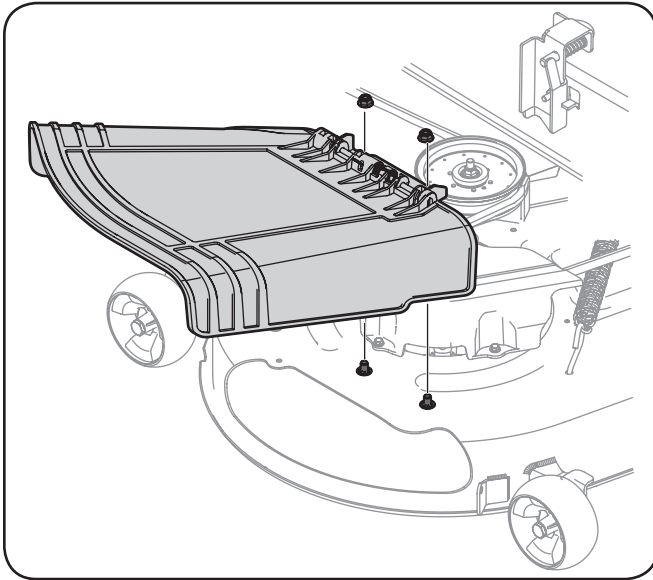

Figure 3-7
3. Install the discharge chute deflector using the carriage bolts, push nuts and flange lock nuts as shown in Figure 3-7.